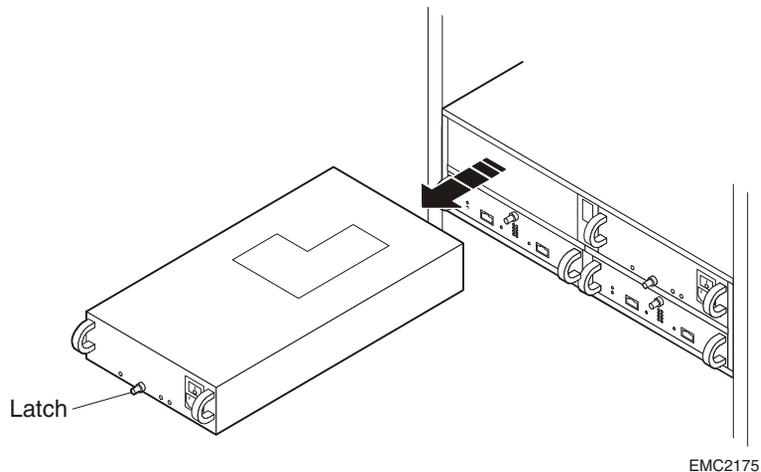

Figure 3-16 Removing a Power Supply/System Cooling Module
- Turn the latch counterclockwise to release the module, and then remove the power/cooling module as shown in Figure 3-16.